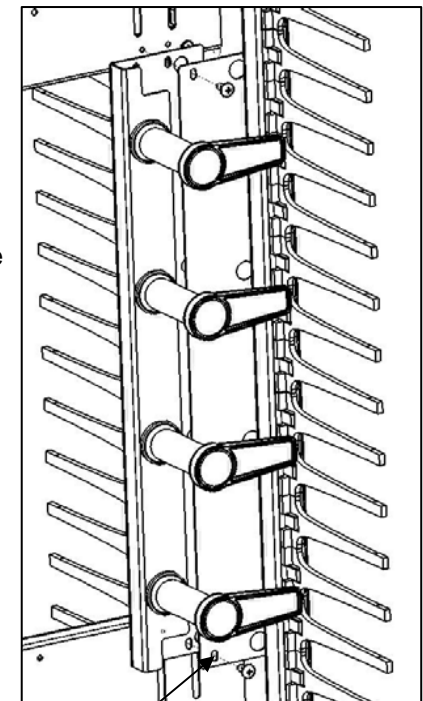

FIGURE 2
- a. Insert the 10-32 screws through the slots in the Extension Panel as shown in Figure 2.
- c. Attach the entire assembly using the second mounting holes in the Mid-Section from the side panels as shown in Figure 2.